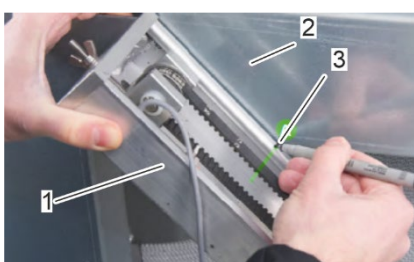

Fig. 28: Intersection of horizontal beam and cleaning rail
5. Mark the intersection (Fig. 28/3) between the cleaning rail (Fig. 28/1) and the horizontal beam (Fig. 28/2) of the rotary heat exchanger frame with a line on the cleaning rail (Fig. 28/1).